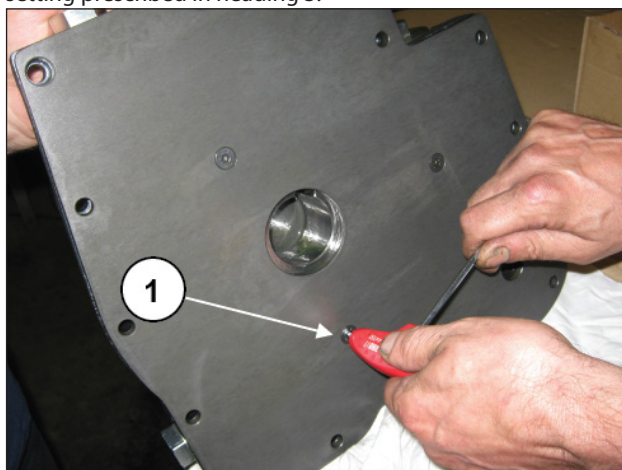

Fig. 153
Fit the lube pump rear plate and tighten the three M6 screws (pos. ①, Fig. 153) using a torque wrench with the torque setting prescribed in heading 3.